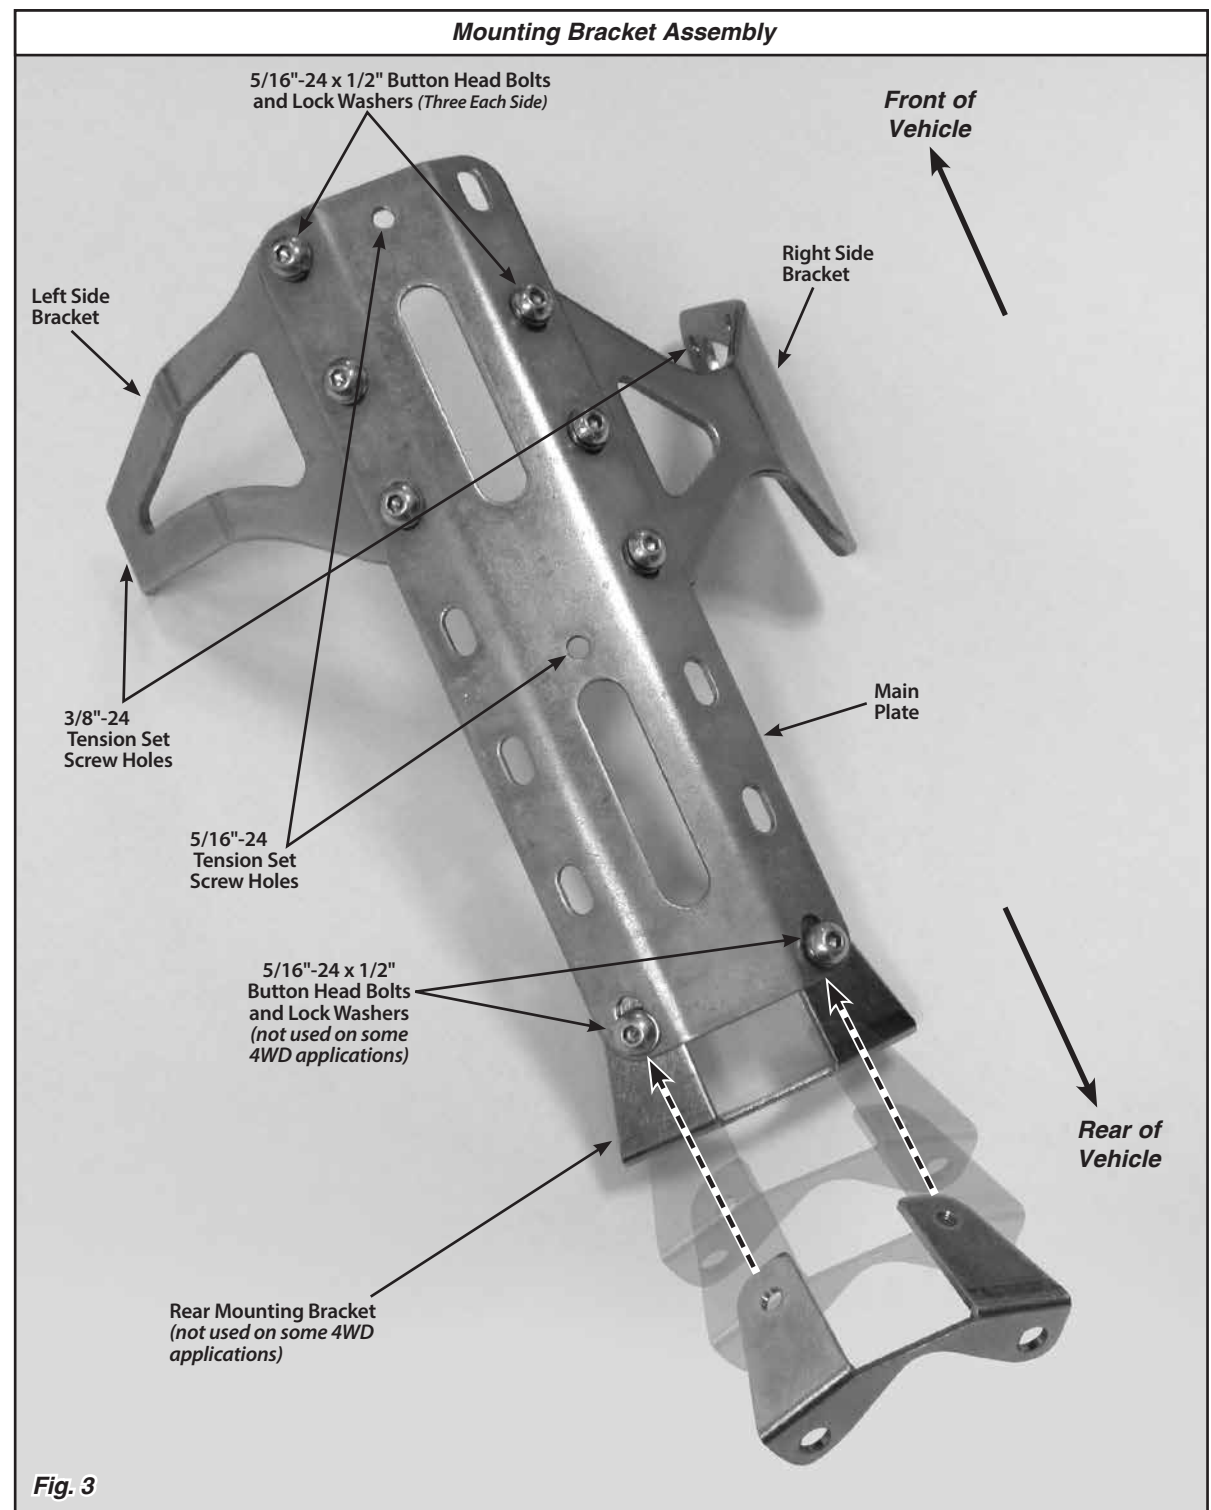

Fig. 3
The left side bracket and right side bracket bolt directly to the main plate. **NOTE: The right side bracket will be offset rearward on the main plate by one slot, compared to the left side bracket.** Attach the side brackets to the underside of the main plate as shown in **Fig. 3**, using three 5/16"-24 x 1/2" button head bolts and lock washers on each side. **DO NOT TIGHTEN AT THIS TIME.**
**Step 4:** Attach the rear mounting bracket to the underside of the main plate with the bracket ears pointing to the front of the transmission (toward the engine) as shown in **Fig. 3**, using two 5/16"-24 x 1/2" button head bolts and lock washers. **DO NOT TIGHTEN AT THIS TIME.**